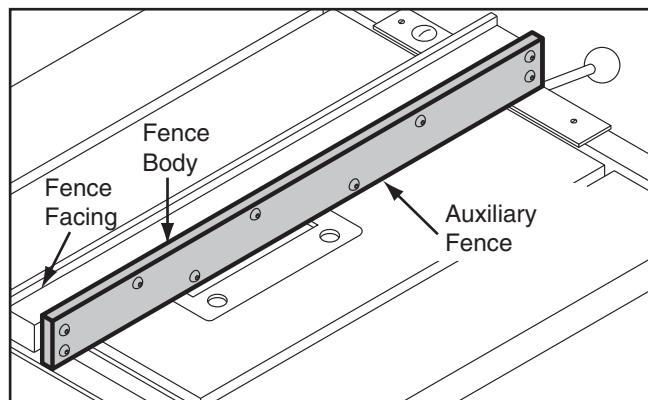

Figure 60. Auxiliary fence.
4. Use the mounting hardware that had previously attached the fence face to attach the auxiliary fence. The end result should be similar to **Figure 60**.